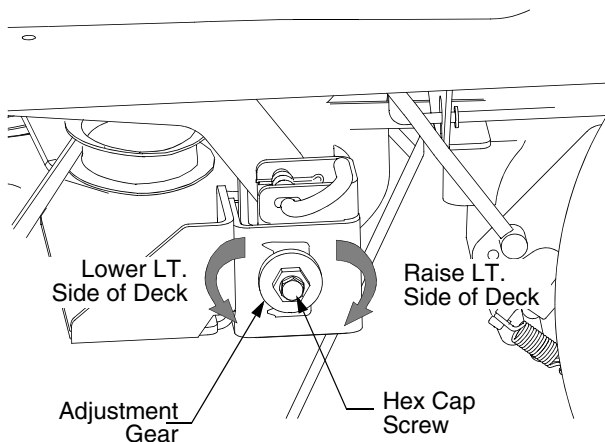

Figure 33
- Loosen, but do not remove, the hex cap screw on the left deck hanger bracket. Refer to Figure 33.
- Level the deck by using a wrench to turn the adjustment gear (found immediately behind the hex cap screw just loosened) clockwise to raise the left side of the deck, or counterclockwise to lower the left side of the deck. See Figure 33.